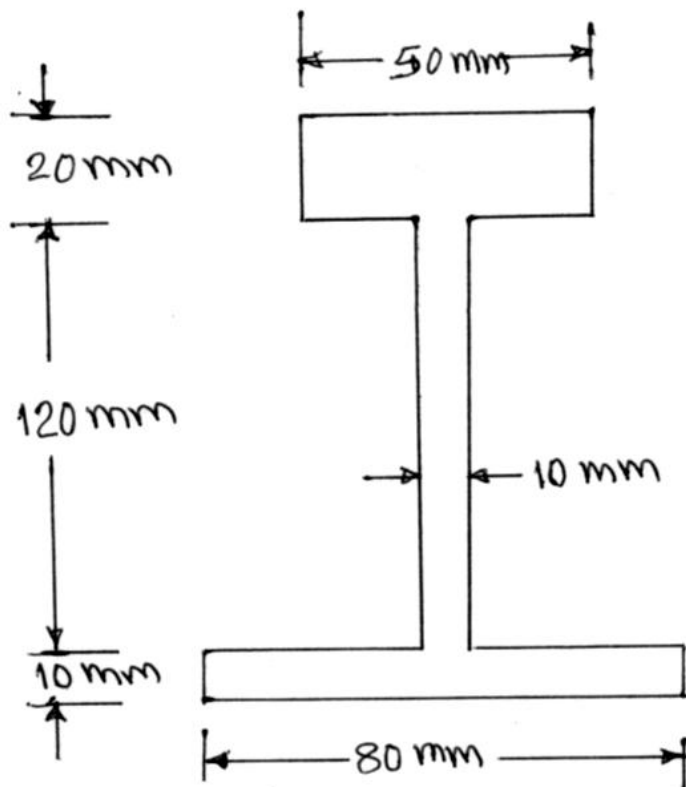

Fig. 2 Q. 3(a)
- Q.3** (a) Find Moment of Inertia about XX and YY axis of section as shown in Fig. 2. **07**